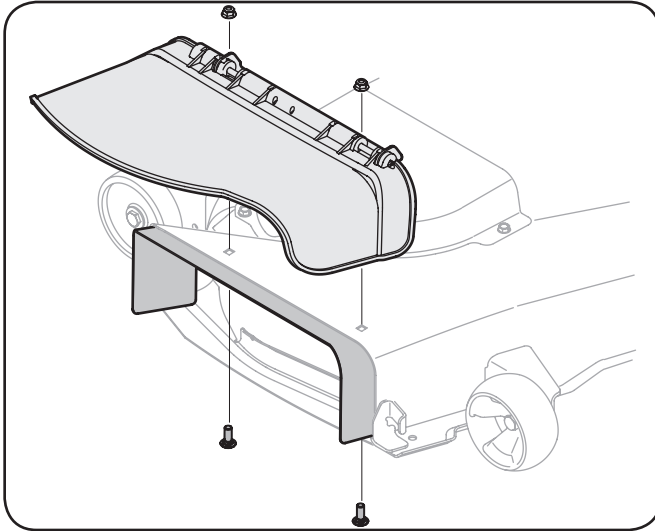

Figure 4-18
3. Install the chute discharge plate to the bottom side of the deck opening, as seen in Fig. 4-18, using two carriage bolts supplied in hardware pack 689-00163.